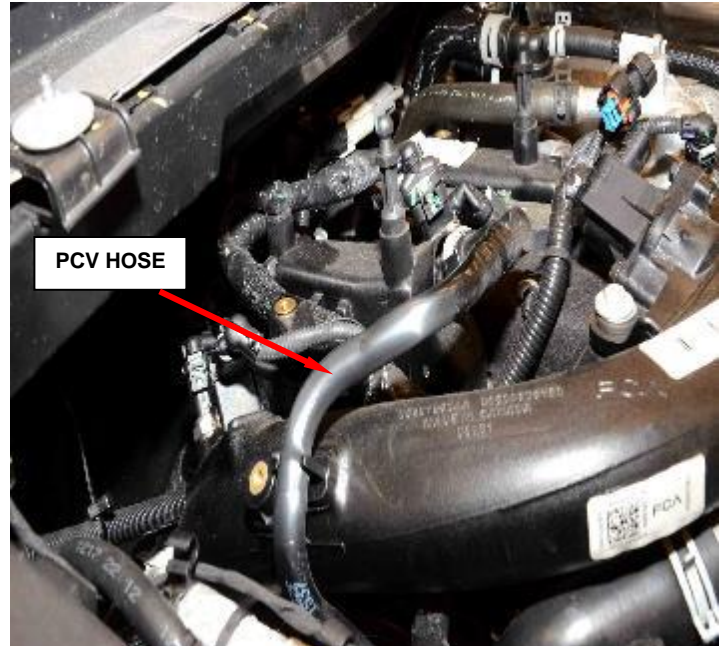

Figure 5 – PCV Hose
7. Remove and save the PCV hose (Figure 5).